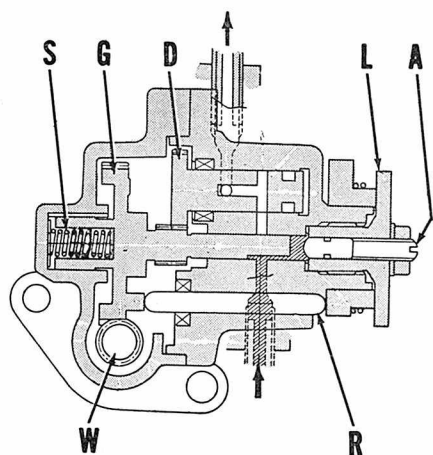
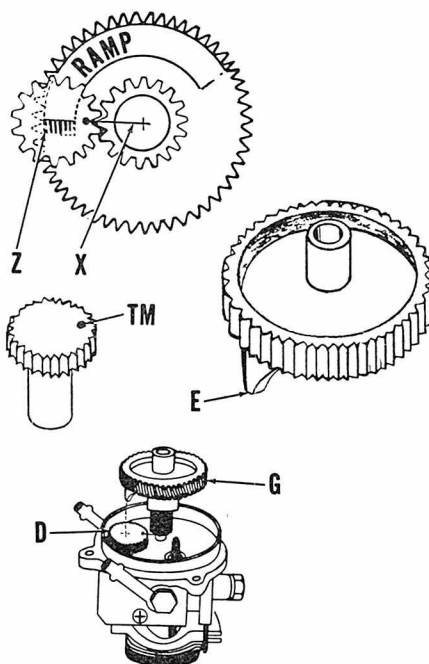

Fig. BS4-9—Cross sectional drawing of oil pump. The distributor (D) must be timed to gear (G) if pump is disassembled. Refer to text.
Fig. BS4-10—If the pump is disassembled, the distributor (D) must be timed to the pump gear (G). Refer to text.
**LUBRICATION.** The engine is lubricated by an automatic oil injection system. Refer to Fig. BS4-8 schematic drawing. The oil is metered and pressurized in the pump unit shown in Fig. BS4-9. The oil pump is driven by worm (W) which turns gear (G). The back of gear (G) is provided with a ramp which contacts rod (R). As the gear (G) turns, spring (S) pushes the gear ramp against rod (R). The pump plunger is an integral part of gear and also moves back and forth, pumping the oil. Distributor (D) is driven by a gear on pump shaft and times the opening and closing of pump outlet ports. The control lever (L) is turned by a cable from the throttle grip. A cam on the back of control lever pushes rod (R), at large throttle openings, which causes gear (G) to move farther and pump more oil.
**NOTE:** Individual parts of the oil pump are not available; however, if the pump is disassembled, the distributor (D—Fig. BS4-10) must be timed to gear (G). Insert distributor into pump bore and align the timing mark (TM) on distributor gear with center of the pump plunger bore as shown at (X). Make certain that distributor does not move and install the gear (G) with the steep edge (E) of ramp in the center of distributor as shown at (Z). Reassemble spring (S—Fig. BS4-9) and worm gear (W) and housing. Only internal timing of the distributor is necessary. Pump assembly does not need to be timed to engine. The pump adjusting screw (A) controls pump volume and should not be changed unless accurate test equipment is available. Minimum plunger stroke should be 0.40-0.45MM (0.016-0.018 in.) and should provide 60 to 68cc/hour at 5,000 engine rpm. Maximum plunger stroke should be 3.6-3.73MM (0.152-0.147 in.) and should provide 600 to 626cc/hour at 5,000 engine rpm. Oil consumption should be approximately 1 quart every 400 miles.